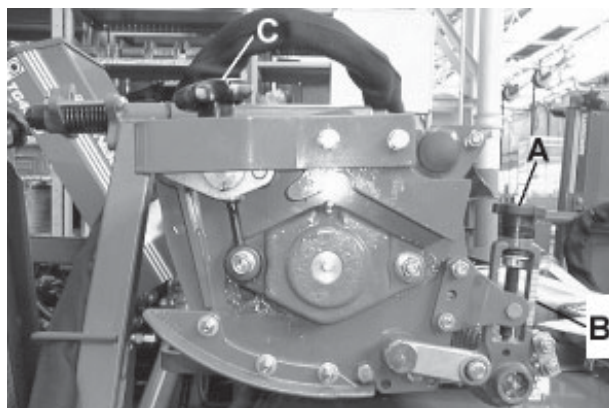

Fig.4
### HEIGHT OF CUT (FIG.4 & 5)
1. Turn the adjuster handwheel or nut (A Fig.4) situated on handwheel clockwise (+) to increase the height of cut, or anticlockwise (-) to decrease the height of cut.